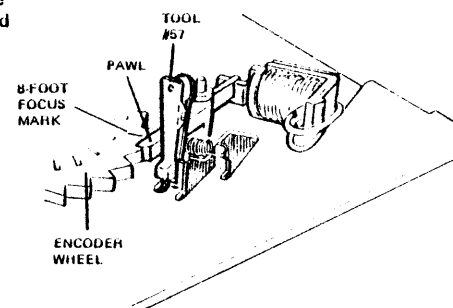

FIGURE 4-23
4. Spin focus wheel several times, and return to 8-foot mark on shutter lens. Check encoder wheel to be sure the 8 foot mark still lines up with the pawl. If not, go back to Figure 4-23 and work through again. Be sure Tool #57 and the tape on the focus wheel do not slip.